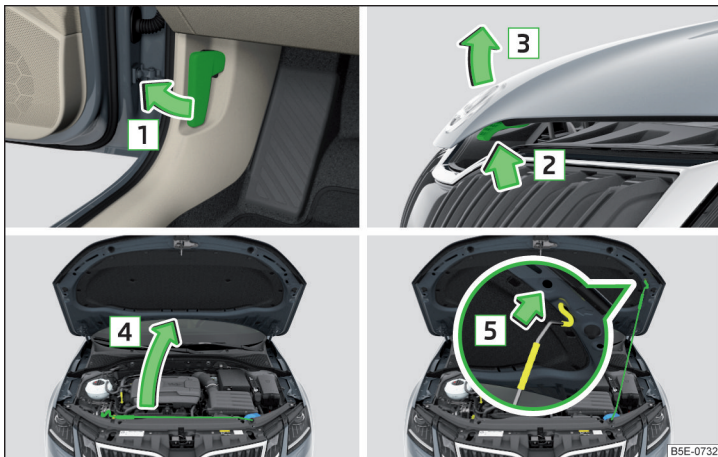

Fig. 307 Opening the bonnet
- Open the front door and pull the release lever below the dash panel in the direction of arrow **1** » Fig. 307.